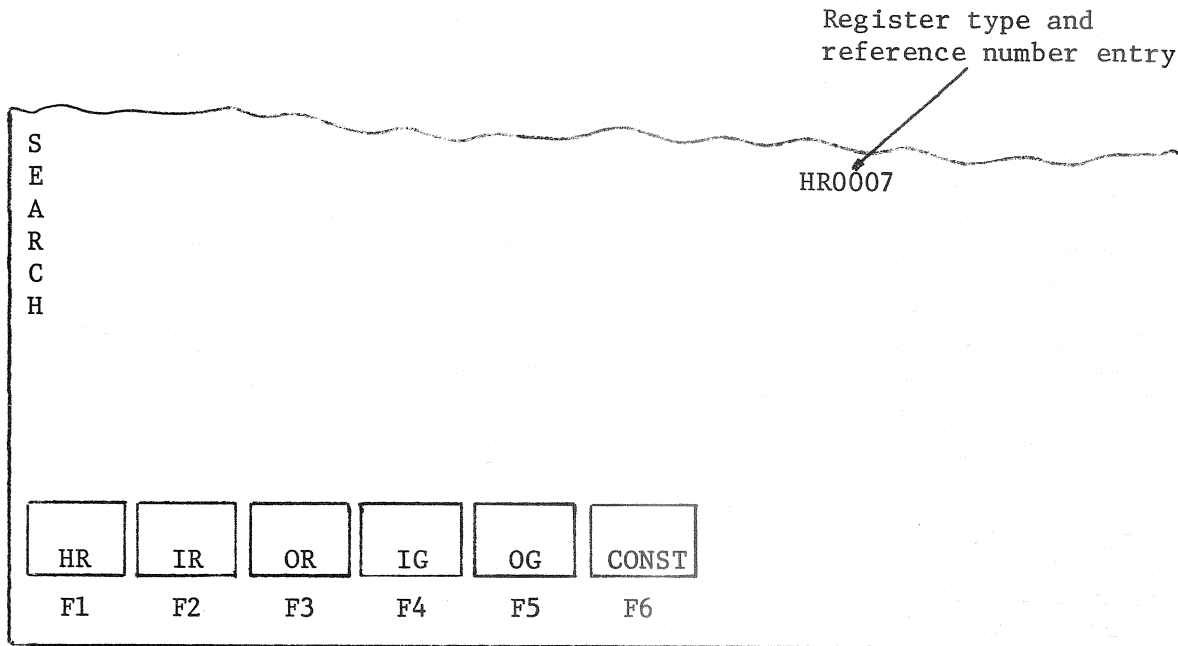

Figure 7-5. Search for Register Submenu
- F5/REG causes the menu shown in Figure 7-5 to be displayed. Select the type of register by pressing the appropriate F1 thru F6 function key followed by the register number. The entered register type and reference number appear on the screen, as shown in Figure 7-5. The search entry is completed by pressing the Enter key (↵).